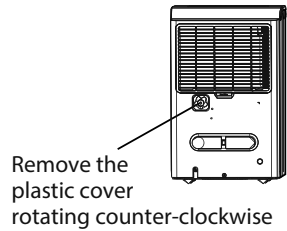
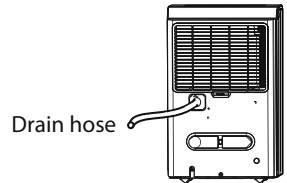

Fig. 9
Fig. 10
- Remove the plastic cover from the back drain outlet of the unit and set aside, then insert the drain hose through the drain outlet of the unit and lead the drain hose to the floor drain or a suitable drainage facility. (See Fig. 9 and Fig. 10)